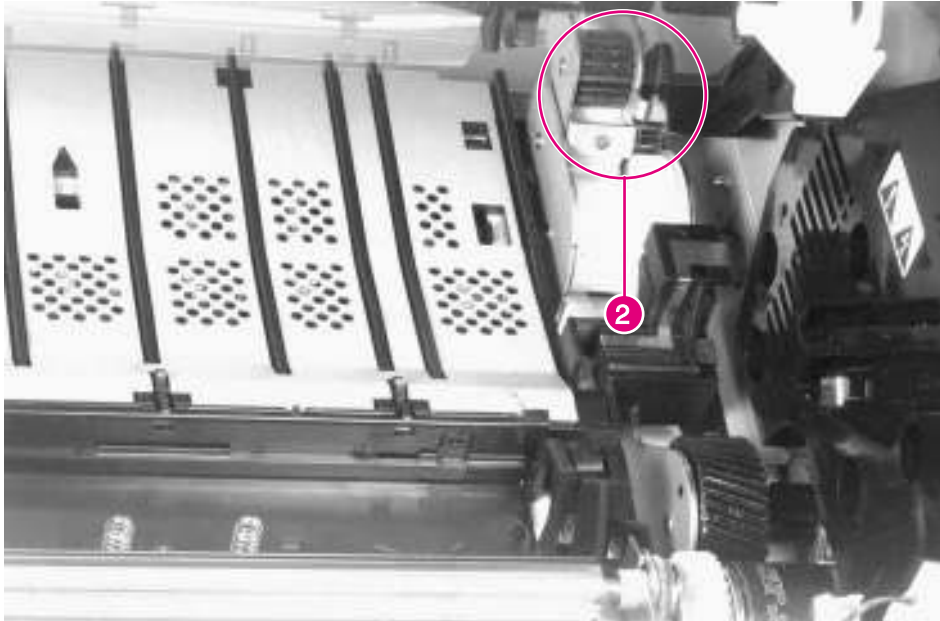

Figure 6-39 Main Gear Assembly (2 of 3)
- 1 Observe the gear assembly position from inside the toner cartridge cavity (figure 6-39, callout 2).